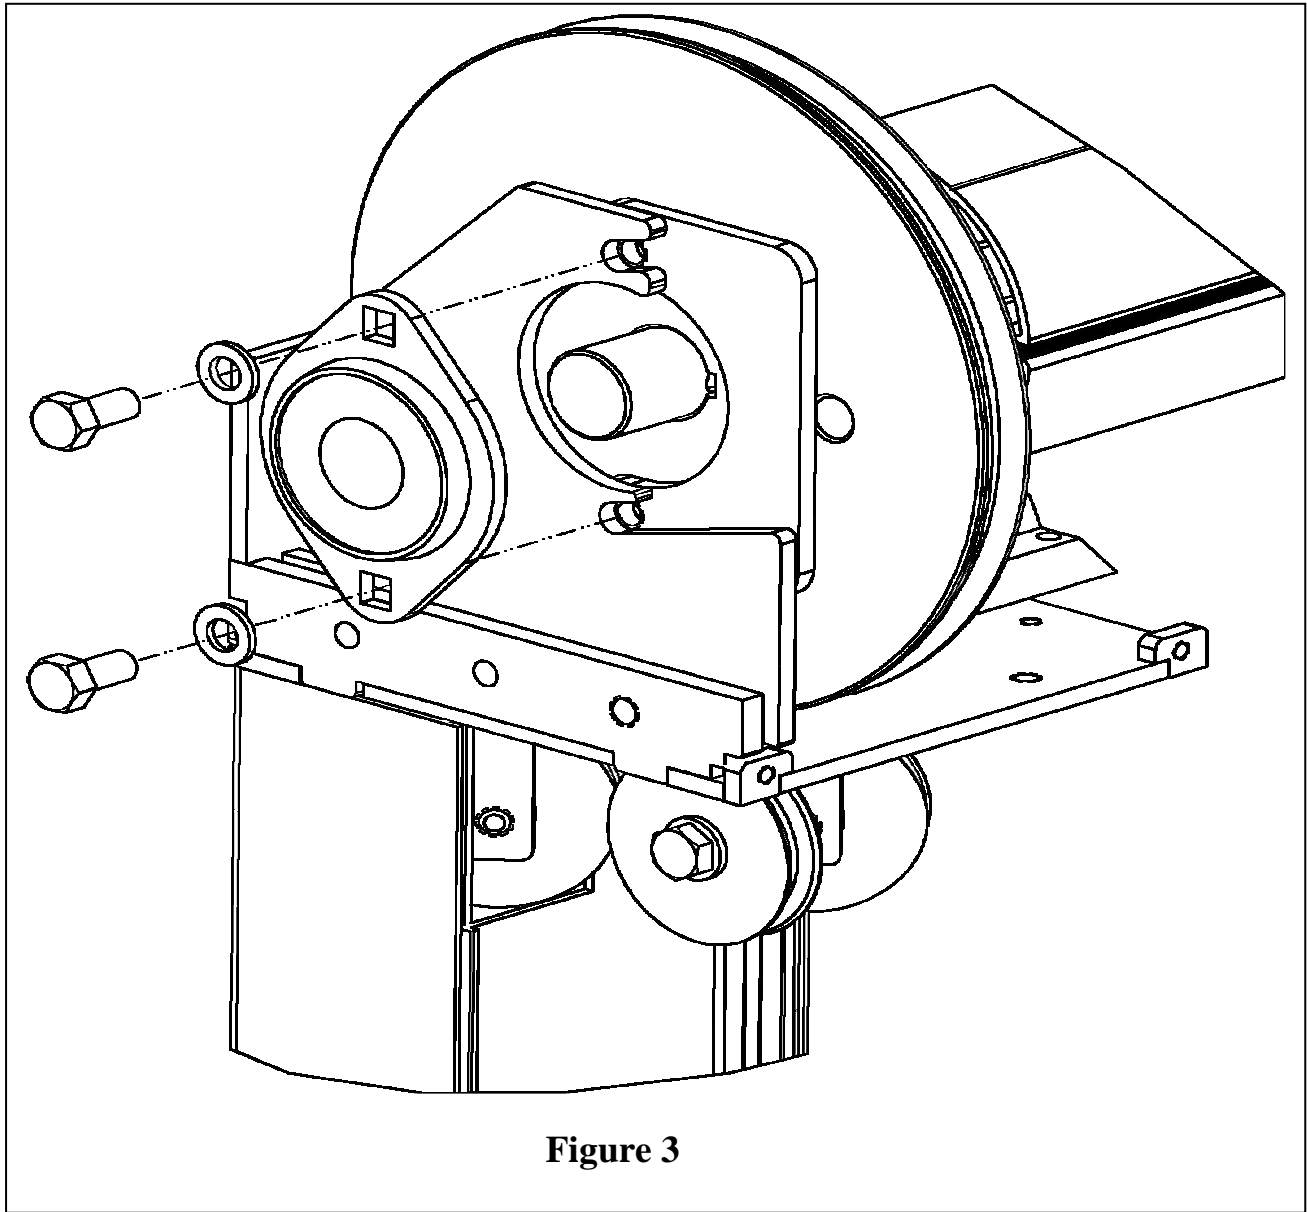

Figure 3
Step 7. Using an approved lifting device, place a lifting strap around the top roll assembly, lift and remove from shipping crate. Raise the top roll assembly into position and lower it slowly onto the top of both side columns. Ensure the bearing housings are located outside the head plates. Secure the top roll at both head plates on each side of door. (**Figure 3**)